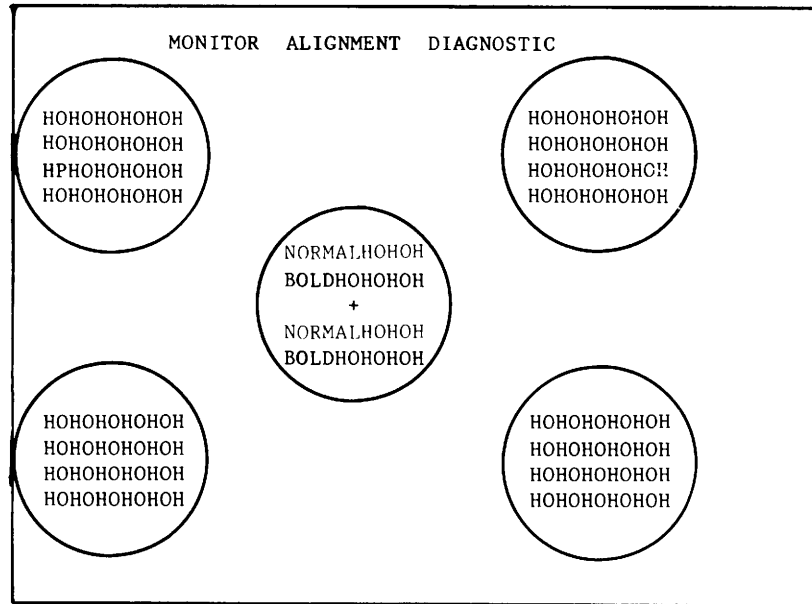

Figure 5-16. Monitor Alignment Screen Horizontal Hold Adjustment
- 11) Adjust the Horizontal Hold (R26) [R1] so that the video pattern overlaps at the left most edge and touches the left edge of the two left most circles. Refer to Figure 5-16.